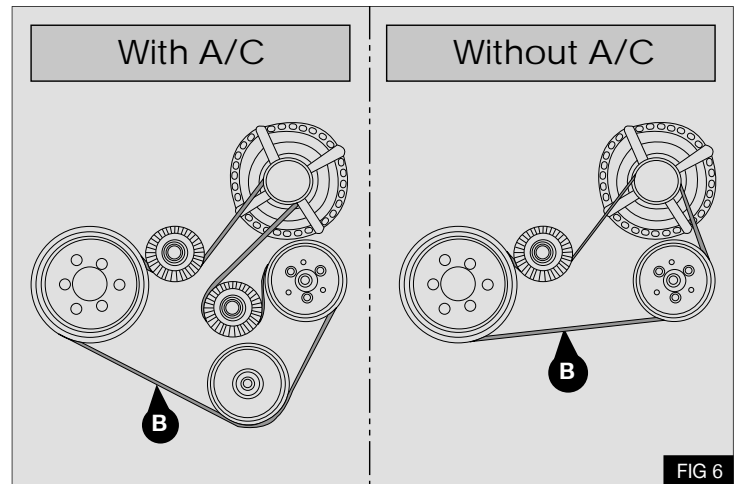

FIG 6
- Refit the original drive belt (B) in the original direction of rotation - Fig 6